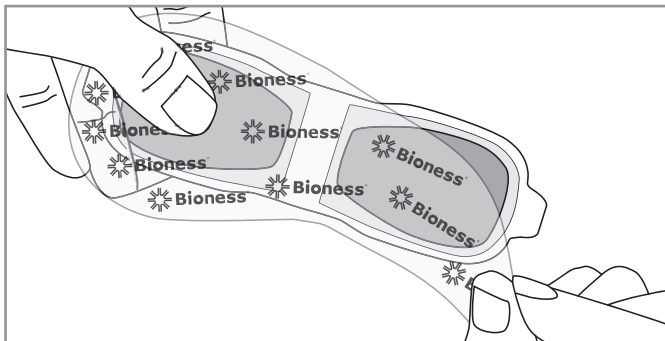

Figure 10-2: Remove the StimRouter Electrode Liner
1. Remove the liner and store it in the StimRouter Electrode Carrying Case. See Figure 10-2.